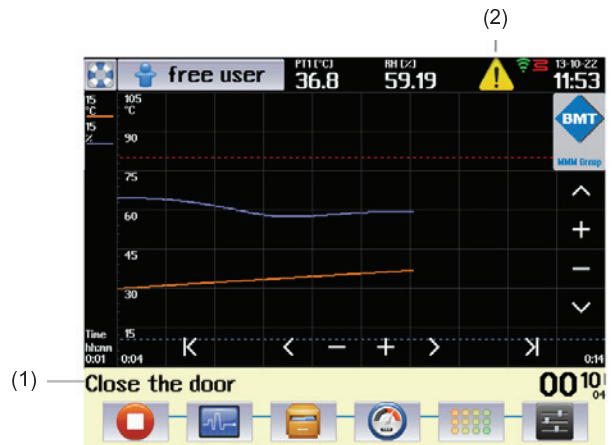
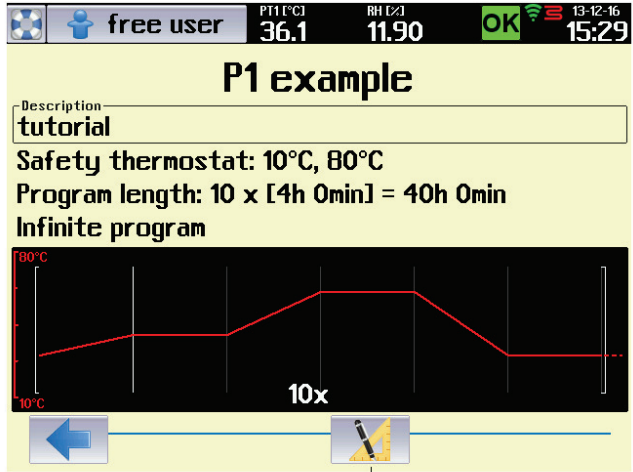

Fig. 67
Fig. 69
- (1) Date and time of postponed start.
In case of the door to be open in the course of the program, the field (1), Fig. 67 displays a relevant message and there
The user may change parameters of currently running program. Using push buttons  (Fig. 67) and  (Fig. 69) you can reach the menu for program editing, see 8.4.2.